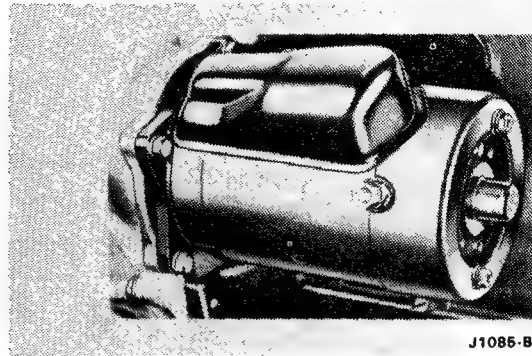

FIG. 7 Starter Mounting
4. Remove the starter assembly (Fig. 7).